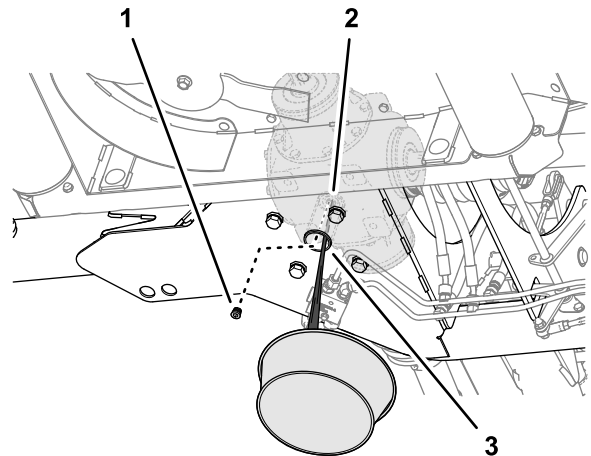

Figure 54
1. Working through the access hole at the bottom-frame plate of the mower, align a drain pan under the hole (Figure 54).
2. Remove the socket-drain plug from the drain port of the center gearbox and allow the lubricant to drain completely (Figure 54).